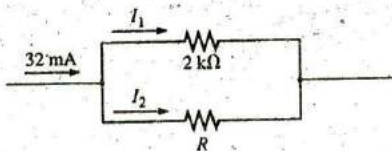

FIG. 6.104
35. a. Find resistance R for the network in Fig. 6.104 that will ensure that $I_1 = 3I_2$.